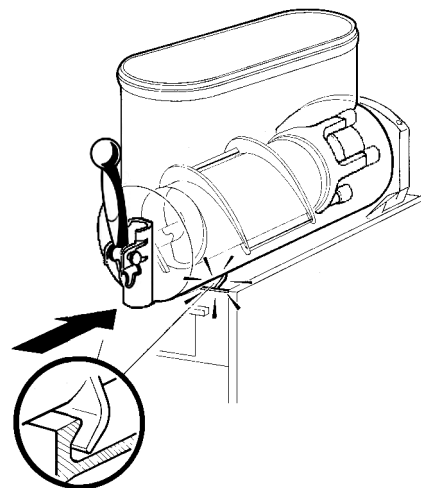

figure 17
- 6 Push the bowl towards the rear wall of the unit until it fits snugly around the gasket and its front fastening hooks are properly engaged (see figure 17).